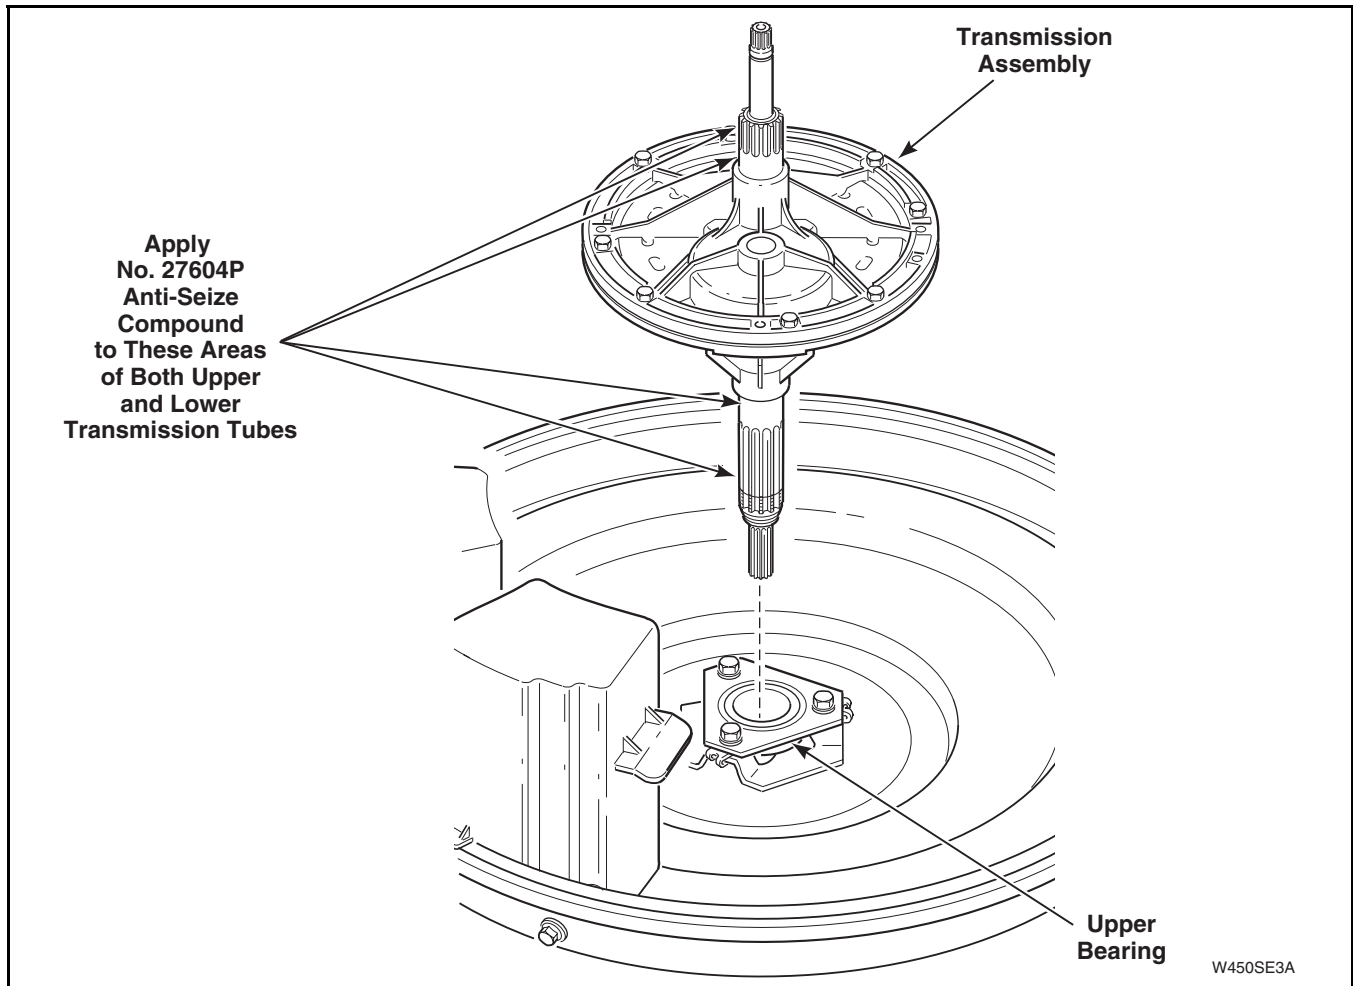

Figure 71
NOTE: When installing lower bearing, weldment assembly and brake assembly, apply No. 27604P Anti-Seize Compound to area of transmission tube that will be contacting bearing, washtub hub and brake assembly. Refer to *Figure 71*.
IMPORTANT: When replacing or reinstalling transmission assembly, it is important that No. 27604P Anti-Seize Compound be applied to area of the transmission tubes where they will be contacting upper and lower bearings. Refer to *Figure 71*.
- Apply Anti-Seize Compound, No. 27604P, to smooth area of both transmission tubes that will be contacting upper and lower bearings. Refer to *Figure 71*.